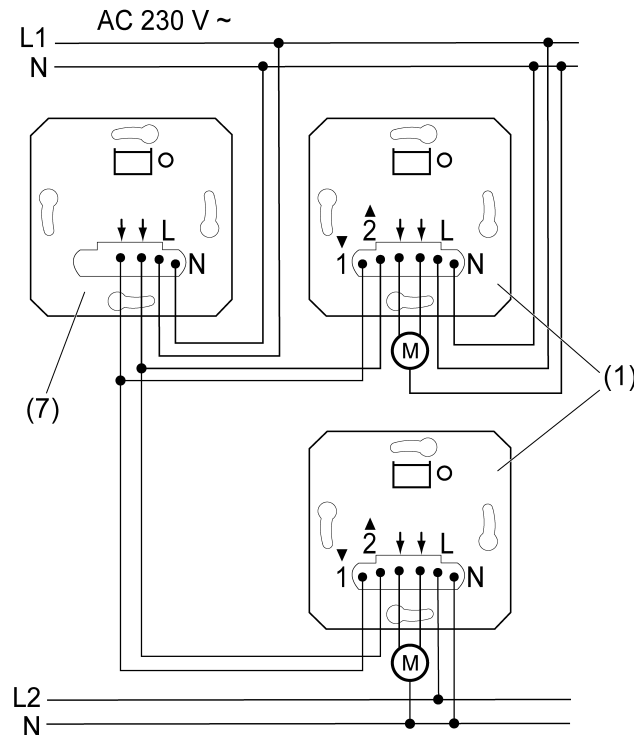

Figure 4: Connection example of group control
The venetian blind insert can be integrated into a group control (Figure 4), either for local control (1) or as a master unit (7).
- Connect the venetian blind inserts according to the connection example (Figure 4). The venetian blind inserts can also be connected to different phase conductors.